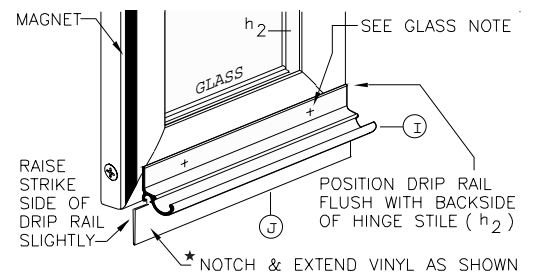
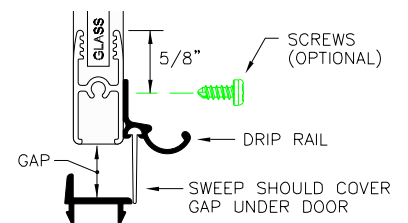

figure 6
figure 7
14. Attach Drip Plugs (I) onto Drip Rail (see exploded view - sheet 1), be sure to remove the knockout on the hinge side drip plug so the water will drain. Clean bottom rail of door with alcohol to remove any oil. Failure to clean door rail prior to installation of Drip Rail (I) may cause tape to release. Remove backing from tape and position Drip Rail flush with backside of Hinge Stile (h2) as shown in figure 6. Sweep should cover gap at bottom of Door as shown in figure 7. Slightly elevate Drip Rail at strike side prior to securing to create a sloping effect.